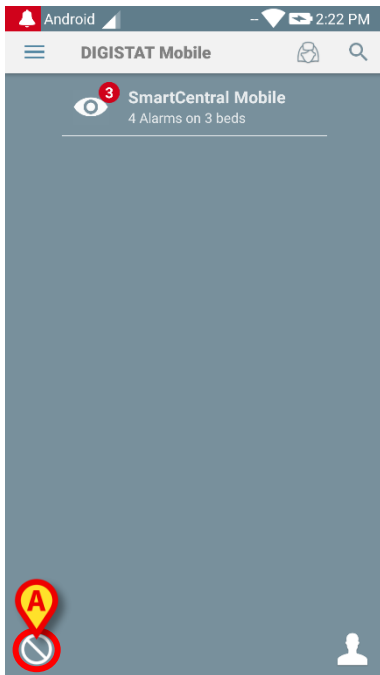
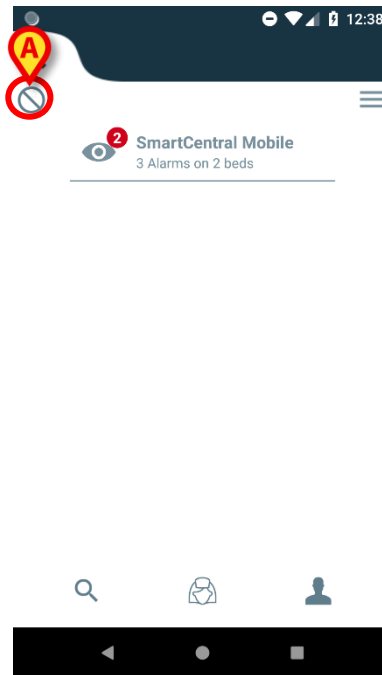

Fig 192
Fig 193
The launcher home page will change as shown in Fig 192.
- Touch the symbol in Fig 192 **A** or Fig 193 **A** to set the device as “available”;